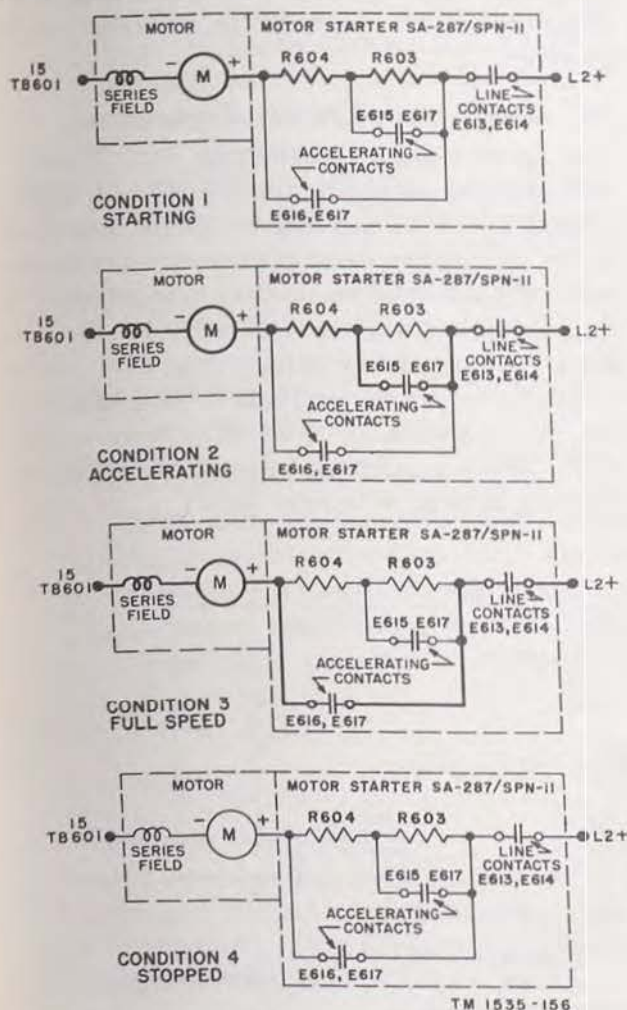

Figure 78. Four conditions of motor starter operation.
while the motor is accelerating. This is condition 1 (fig. 78).
of accelerating contact No. 1 causes resistor R603 to be shorted out. More current is allowed to flow through the motor. This is condition 2 (fig. 78).
are through which movable accelerating contact No. 1 moves, the No. 2 contacts are made to close 1 second after the No. 1 contacts. Closing of the No. 2 contacts causes resistor R604 as well as R603 to be shorted out. Full line voltage now is applied across the motor condition 3 (fig. 78).
f. When POWER switch S105 is turned off, all contacts open up and no current flows through the motor condition 4 (fig. 78).